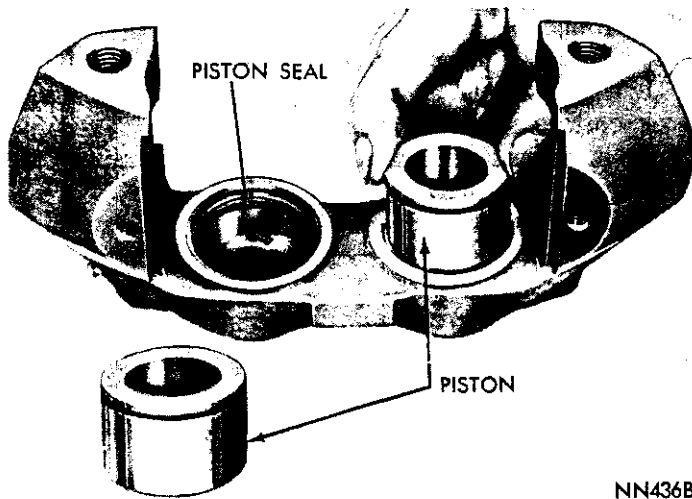

Fig. 14—Installing Pistons in Caliper
(1) Clamp inner caliper half in a vise (with protector jaws) by mounting lugs.
(2) Dip new piston seals in clean brake fluid and install in caliper grooves. The seal should be positioned at one area in groove and gently worked around cylinder bore with a finger until properly seated. **Never use an old piston seal.** (Be sure seals are not twisted or rolled.)
(3) Coat outside diameter of pistons with clean brake fluid and install them in cylinder bores (Fig. 14), with open end of piston and boot retaining groove facing out of cylinder.
(4) Position piston squarely in bore and apply slow steady pressure until piston is positioned. **If piston will not position itself, remove piston and check position of seal for proper position in groove.**
(5) Install a new dust boot in position in groove in caliper and in piston. **Be sure dust boot is properly seated.** Install new remaining dust boots in same manner.
(6) Install caliper half on one clamped in vise, then install assembly bolts (bridge bolts) and tighten from 70 to 80 foot-pounds. **(Under no condition should these bolts be substituted or replaced by an inferior bolt. The use of bolts other than those specified for this purpose, could cause a caliper failure resulting in an accident).**
(7) Install transfer tube and tighten securely. (Be sure tube is under protective eyebrow.)
(8) Install bleeder screw but do not tighten.